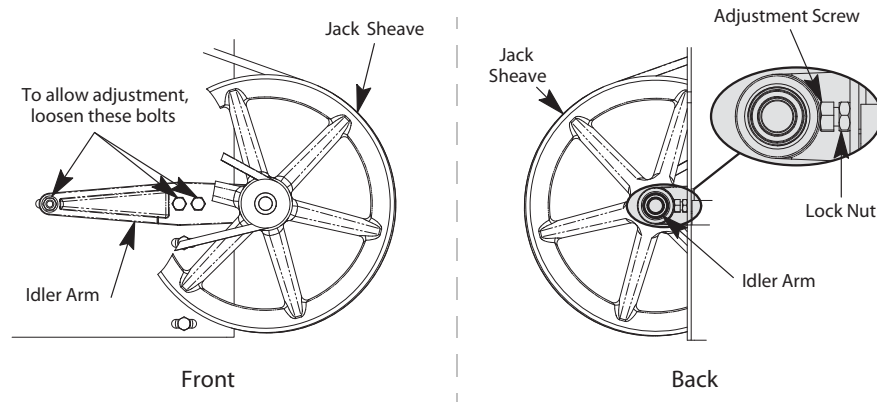

Figure 3 - V Belt Adjustment
1. Use the supplied drilling template as a reference to mount the door operator base on the car top. See Figure 3 on page 4 for all steps in this procedure.
4. Match four (4) slots in the door operator frame to four (4) holes in the door operator base, and install a hex head screw, a flat washer, a lock washer, and a hex nut in each.